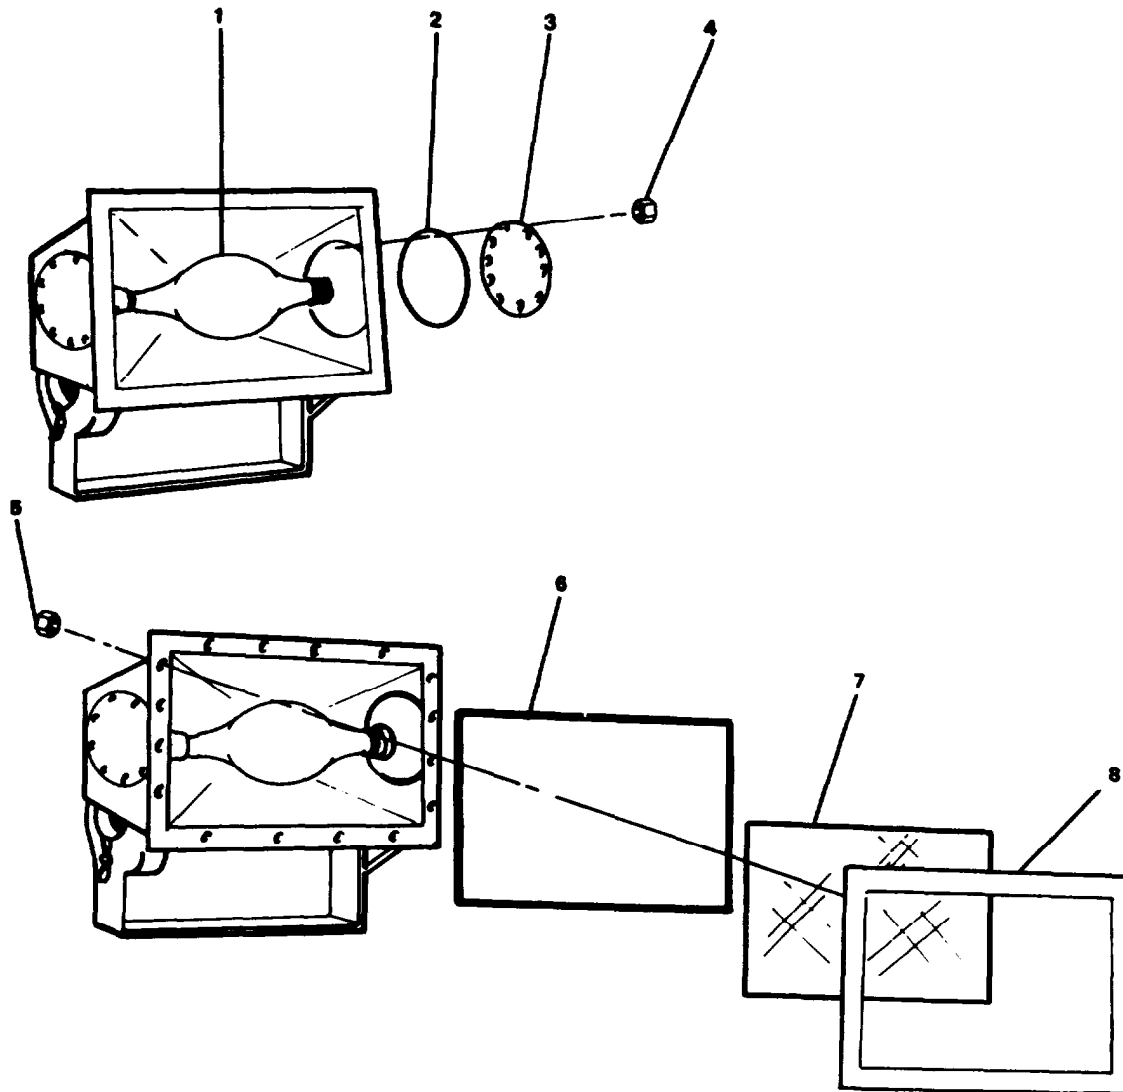

FIGURE 2-160. Floodlight Repair.
- (1) Remove eight nuts (4, FIGURE 2-160).
- (2) Remove access plate (3) and gasket (2). Discard gasket (2).
- (1) Position lens (7, FIGURE 2-160), gasket (6), and lens frame (8)
- (2) Secure with 16 nuts (5).